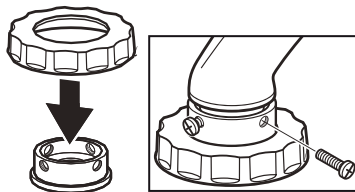

Figure 3.7 – Installing Optional Metal Adaptor
7. If the plastic adaptors do not fit, use the metal adaptor. Before installing, remove the screws from metal adaptor. Slide the collar over the adaptor, then place the adaptor on the faucet. Tighten the four screws to secure the metal adaptor to the faucet (see Figure 3.7). Caution: Metal adaptor screws can damage faucet threads. Use care when installing screws.